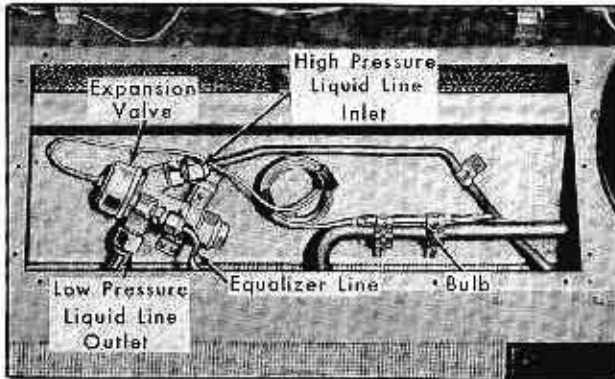

Fig. 16A-30 Expansion Valve Connections
3. Disconnect the power element bulb from the low pressure line, Fig. 16A-30.